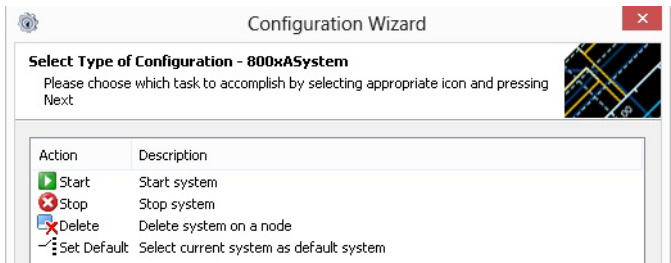

Figure 21. Systems Dialog Box
4. Select **Stop** in the Systems dialog box and click **Next**, see Figure 21.
4. Select **Delete**, see Figure 21, click **Next**.
1. Select **Set Default** in the Systems dialog box, see Figure 21.